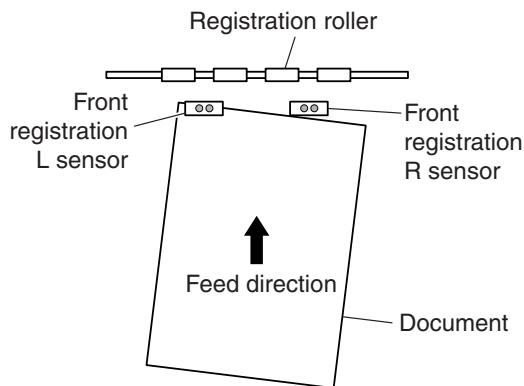
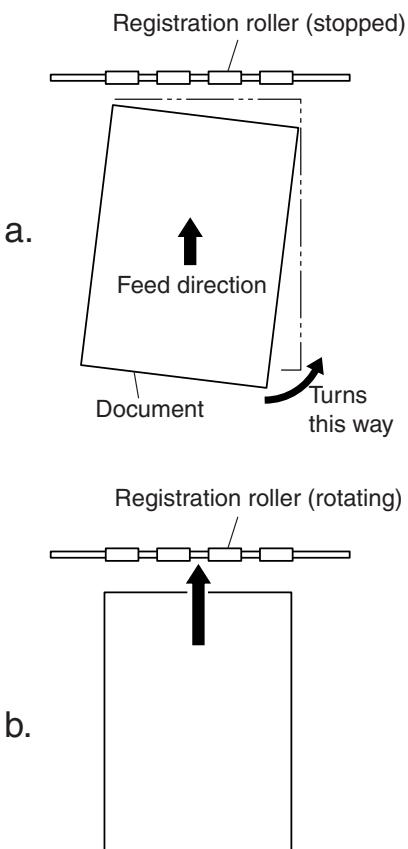

Fig. 2-309
Fig. 2-310
The skew correction (deskew) uses the front registration sensors and the registration rollers. Skew is detected by the front registration sensor and then is corrected by the registration rollers. Fig. 2-309 shows the arrangement of the front registration sensors and Fig. 2-310 shows the skew correction mechanism.
As shown in Fig. 2-309, the front registration sensors consist of the left sensor (L) and the right sensor (R), and are mounted in front of the registration roller. If no skewing occurs, there is no difference in the timing for both sensors detecting the document. However, if the document is skewed, one of the sensors detects the document earlier and there is a difference in the timing of detecting the document. As the skew amount is increased, the difference is also increased. The difference affects the time of the skew correction performed by the registration roller, and an increased difference will prolong the skew correction time.
As shown in Fig. 2-310, the skew correction is performed at the registration roller area. When the feed roller feeds the document in the feeding direction, either the right or left front end of the document runs into the registration roller. Since the registration roller remains stopped, the document is turned on the fore-end of the document run into the registration roller so that the skew is corrected. (Refer to Fig. 2-310-a)